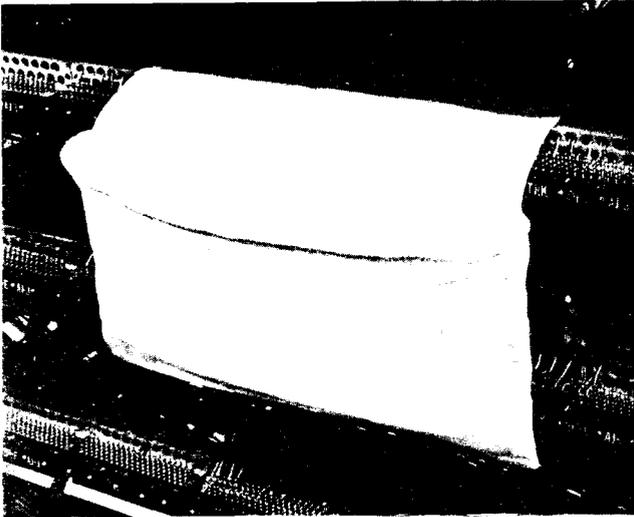

Fig. 2—Distributing Frame Bag on Horizontal Frame
2.02 When using the bag on horizontal strips or blocks, the weighted flap rests upon the frame wiring beneath the terminal strip on which work is being performed. The pocket portion hangs downward, as shown in Fig. 2, to collect wire clippings and solder debris.